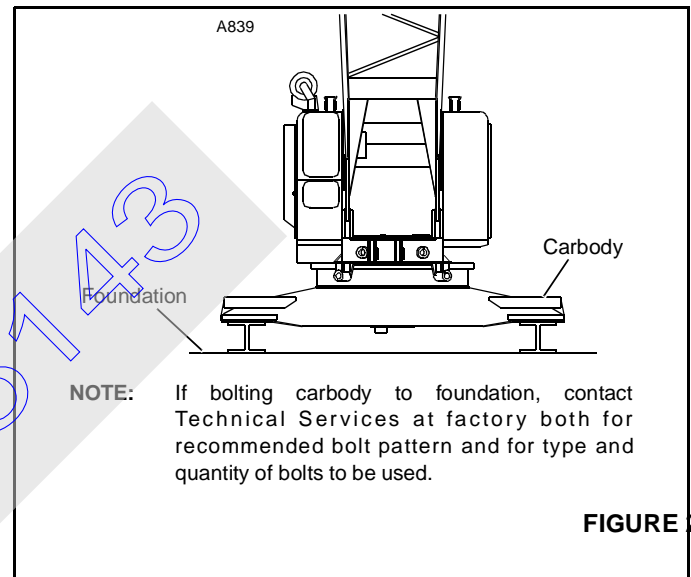

FIGURE 2
2. Crane upperworks mounted on a carbody (crawlers removed) which is securely fastened to the foundation (Figure 2).